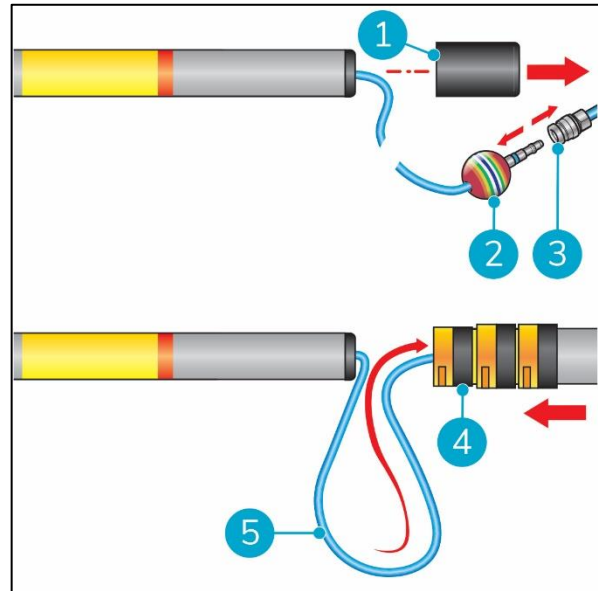

Figure 12
1. Disconnect the water supply hose (Figure 12, pos 3).
2. Remove the soft ball (Figure 12, pos 2) from the tube hose.
3. Remove the protection cover (Figure 12, pos 1).
4. Feed the pole hose through the extension parts (Figure 12, pos 5).
5. Add the extension parts (Figure 12, pos 4).